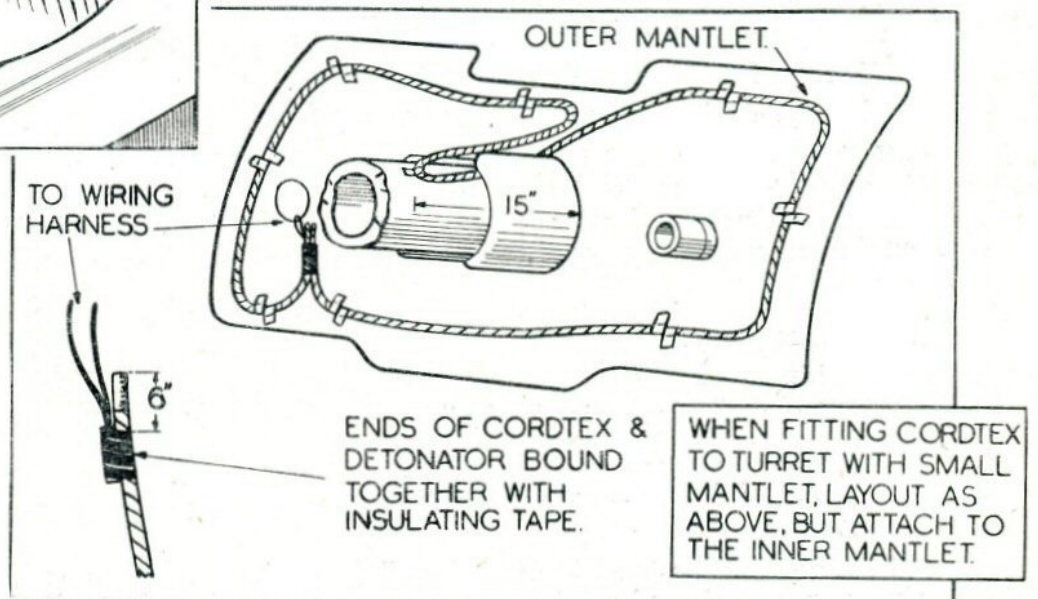

Fig. 22. Cordtex on turret mantlet.
- (i) The turret as Fig. 22, depending on the type of mantlet.